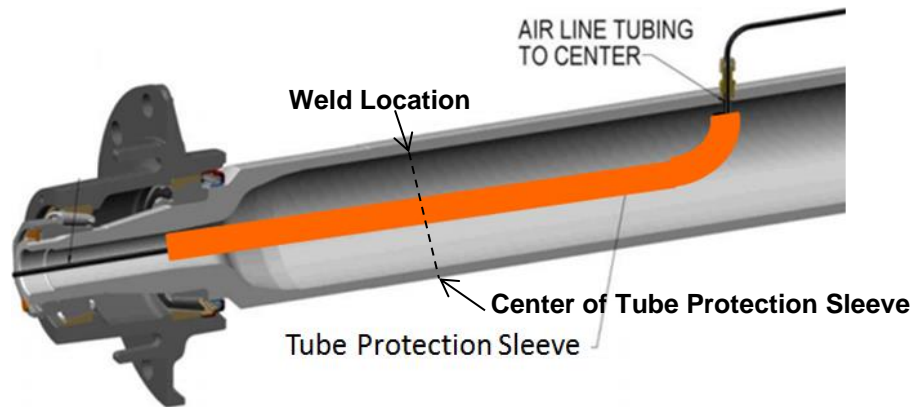

Figure 2: Insulating Sleeve, installed in axle
5. Push the insulating sleeve into the axle to a depth such that the midpoint of the insulating sleeve is centered in the area where the welding will occur. This positioning will ensure that the tubing will be protected on both sides of the welding area. See Figure 2.